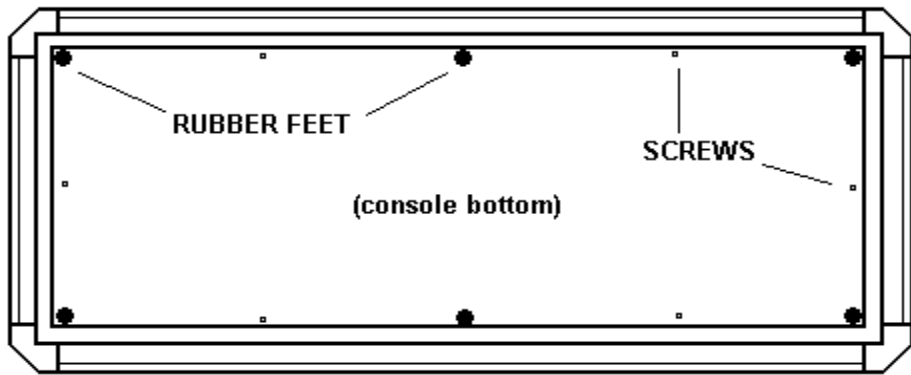

Figure A.6 Bottom of Console
3. With a Phillips screwdriver, remove the rubber feet and screws from the bottom panel. (see Figure A.6)